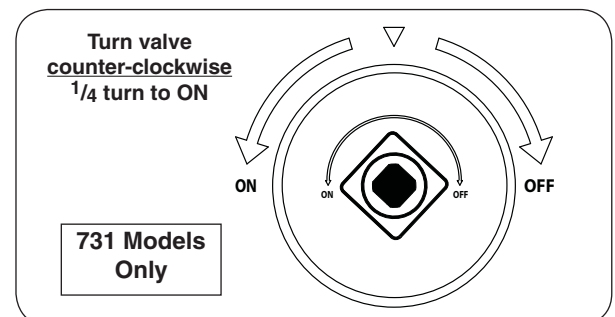

Fig. 39-2 ON/OFF key valve detail
3. If equipped, turn the ON/OFF key valve counter-clockwise a  $\frac{1}{4}$  turn to the **ON** position (Fig. 39-2).